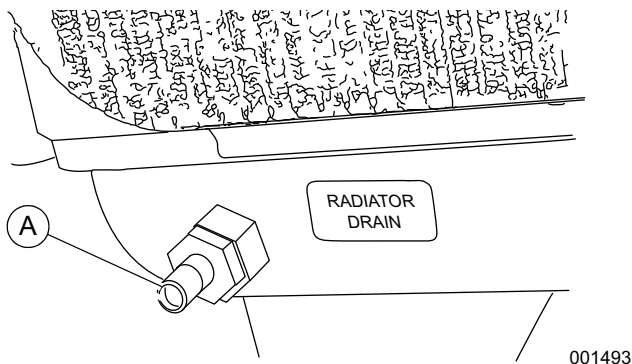

Figure 5-28. Drain Coolant System
4. See Figure 5-28. Locate drain valve (A) at bottom left side of radiator. Turn hex fitting to open drain valve.